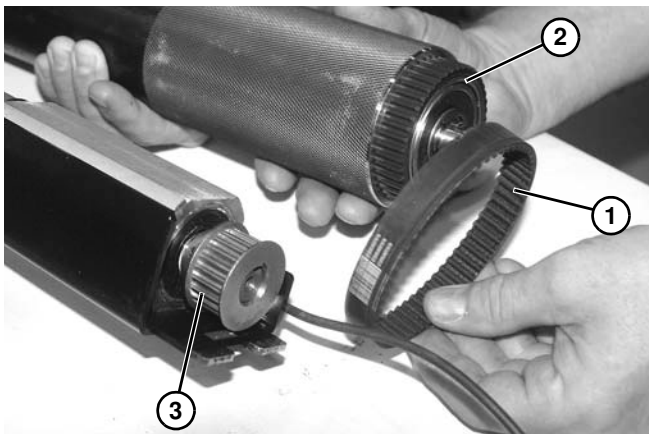

Figure 203
11. Remove timing belt (**Figure 203, item 1**) from drive spindle assembly (**Figure 203, item 2**) and motor drive gear (**Figure 203, item 3**).